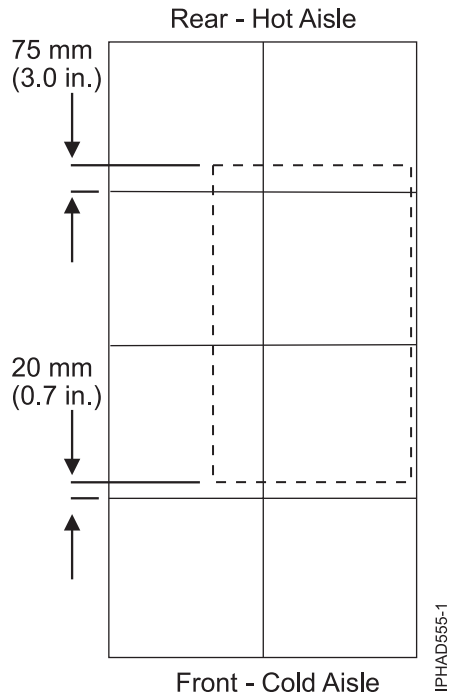

Figure 59. Rack placement for 610 mm (24 in.) tiles
3. The Figure 59 on page 109 and Figure 65 on page 115 figures are intended only to show relative positions and accurate dimensions of floor cutouts. The figures are not intended to be a machine template and is not drawn to scale.